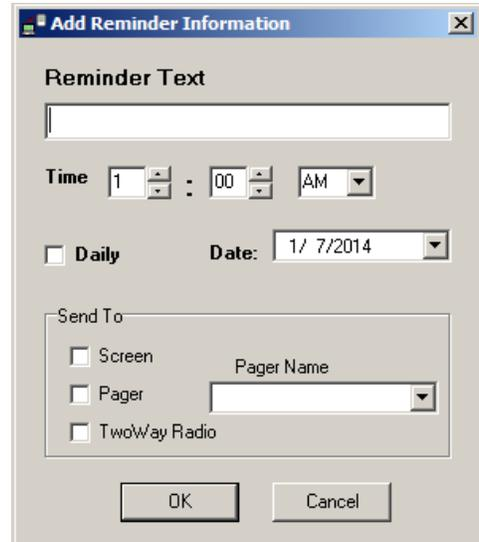

Figure 33
- In the Reminder Text box, see **Figure 33**, type in the message as you want it to appear/annunciate.